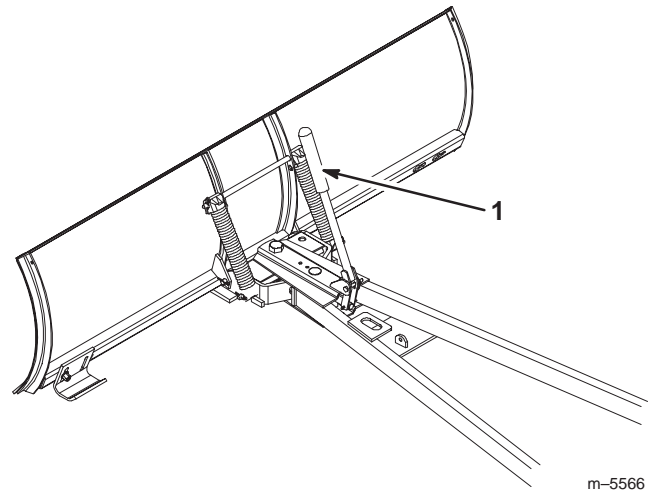

Figure 17
2. Push the index lever forward with one hand (Fig. 17) while positioning the blade with the other hand until you have reached the desired blade angle.